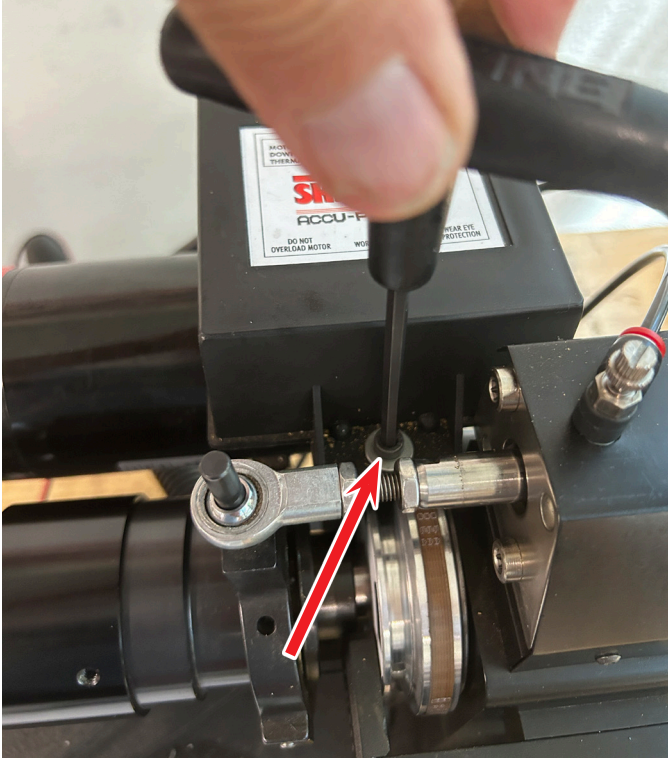

FIGURE 4
C. Unscrew the speed control clamping screw (see Figure 4).